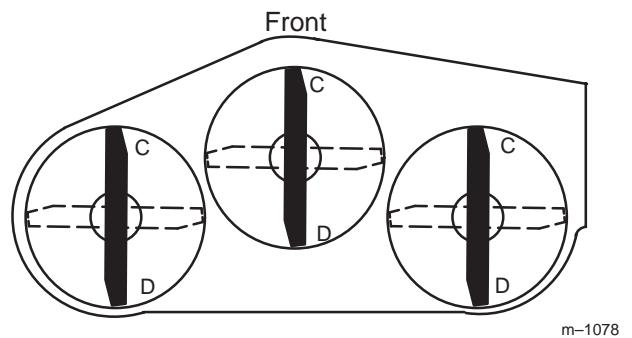
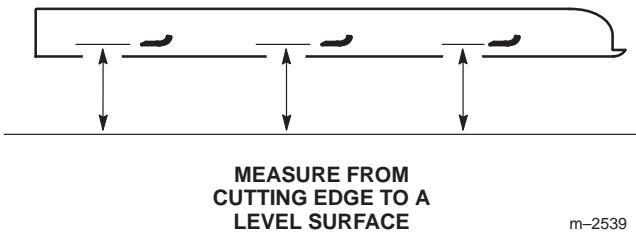

Figure 58
Figure 59
2. Position one blade front-to-rear (Fig. 58). Measure at **C** and **D** locations (Fig. 58) from a level surface to the cutting edge of the blade tips (Fig. 59).
4. Position the blades front-to-rear (Fig. 58). Measure at **C** and **D** locations (Fig. 58) from a level surface to the cutting edge of the blades (Fig. 59).